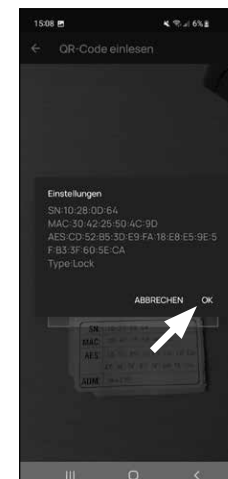

Fig. 5
- 6 A message appears containing data regarding your cylinder; confirm this with „OK“ at the bottom right (Fig. 5).